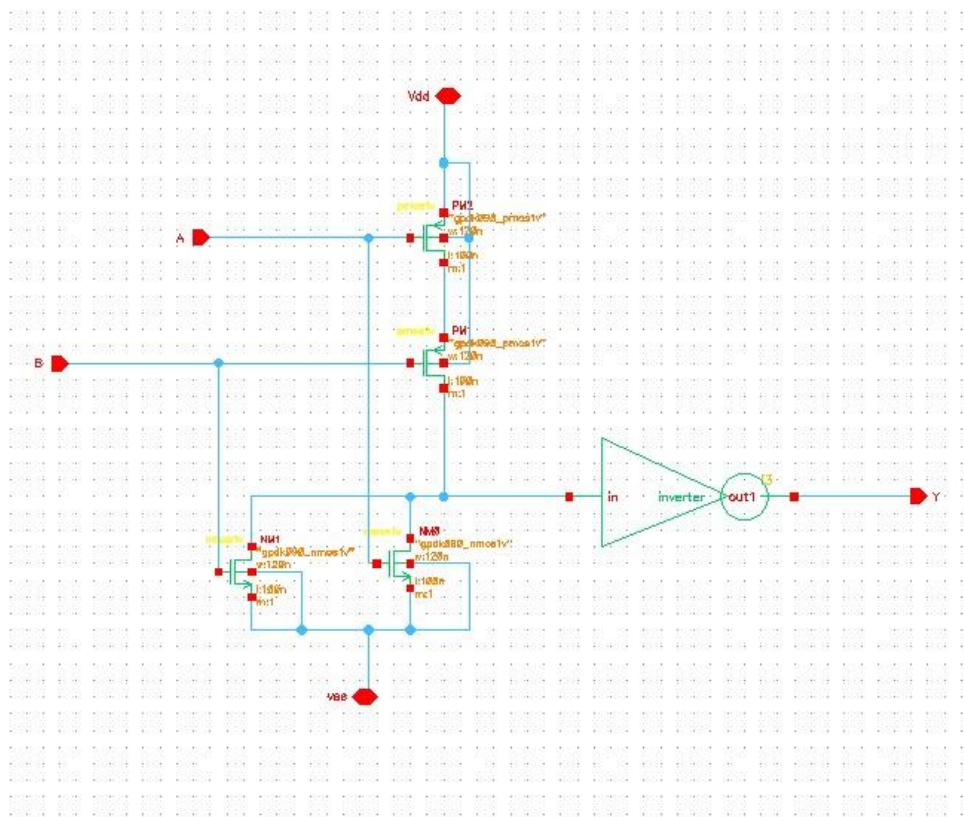

Figure 4: Schematic diagram of CMOS AND gate
- Now it is time to design AND gate using NAND gate and Inverter. The schematic design of NAND gate is shown in figure 4.